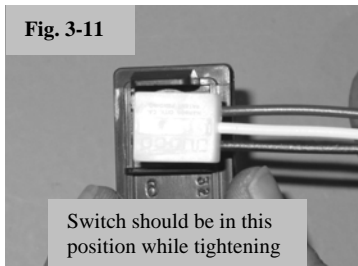

Fig. 3-11
- (n) Install the switch to the bezel as shown (wires at 3:00 position). (Fig. 3-11)